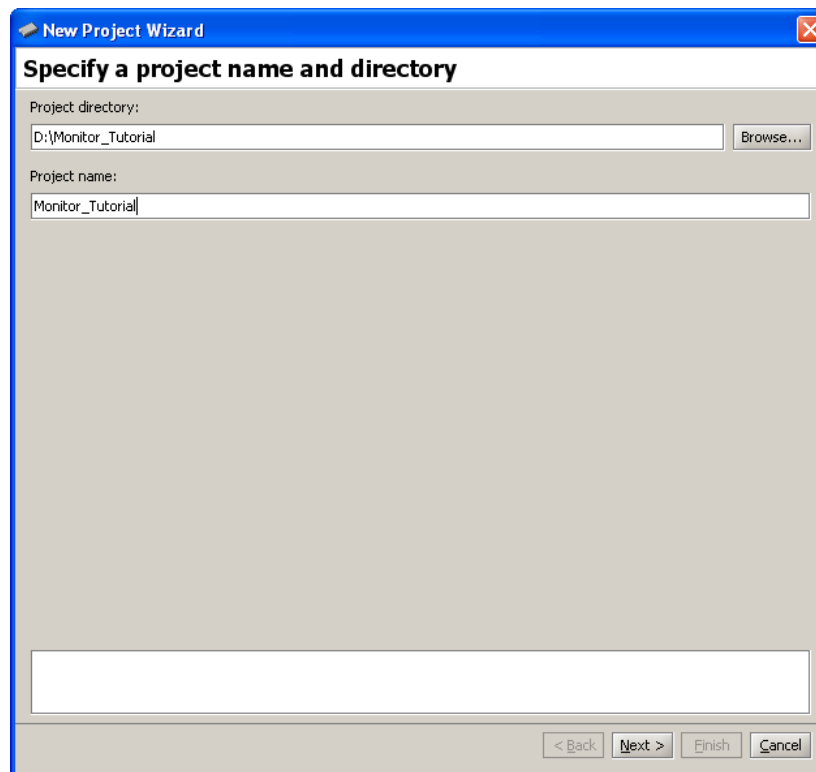

Figure 5. Specifying the project directory and name.
1. Select **File > New Project** to open the *New Project Wizard*, as illustrated in Figure 5. This Wizard presents a sequence of screens for defining a new project. Each screen includes a number of dialogs, as well as a message area at the bottom of the window. The message area is used to display error and information messages associated with the dialogs in the window. Double-clicking the mouse on an error message moves the cursor into the dialog box that contains the source of the error.
In Figure 5 we have specified the file system directory *D:\Monitor_Tutorial* and the project name *Monitor_Tutorial*. For simplicity, we have used a project name that matches the directory name, but this is not required.